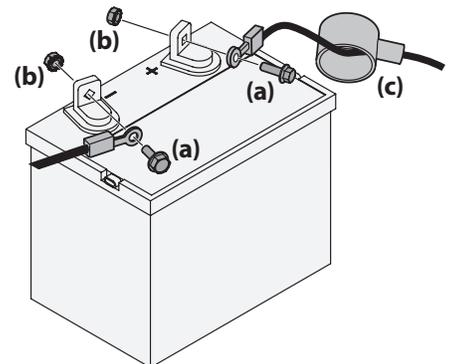

Figure 2-8
- Remove the plastic cover, if present, from the positive battery terminal and attach the red cable to the positive battery terminal (+) with the bolt (a) and sems nut (b). See Figure 2-8.